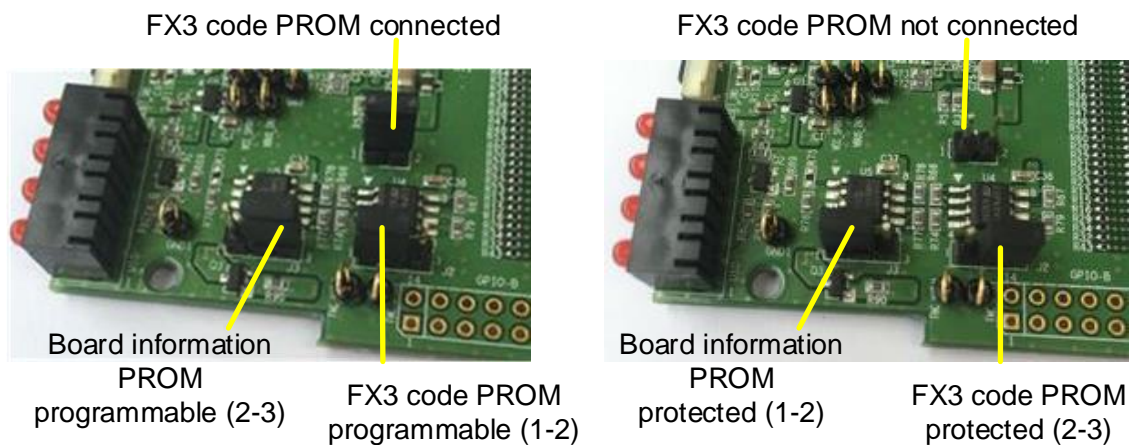

Figure 6: Jump settings
Location of switches and jumps can be found from Figure 6.
- CID rotary switch (1)
- USB reset switch (3)
- USB board information PROM program jump (6)
- ✧ See Figure 6
- FX3 code PROM program jump (8)
- FX3 code PROM connection jump (9)
- FMC board information PROM program jump (13)